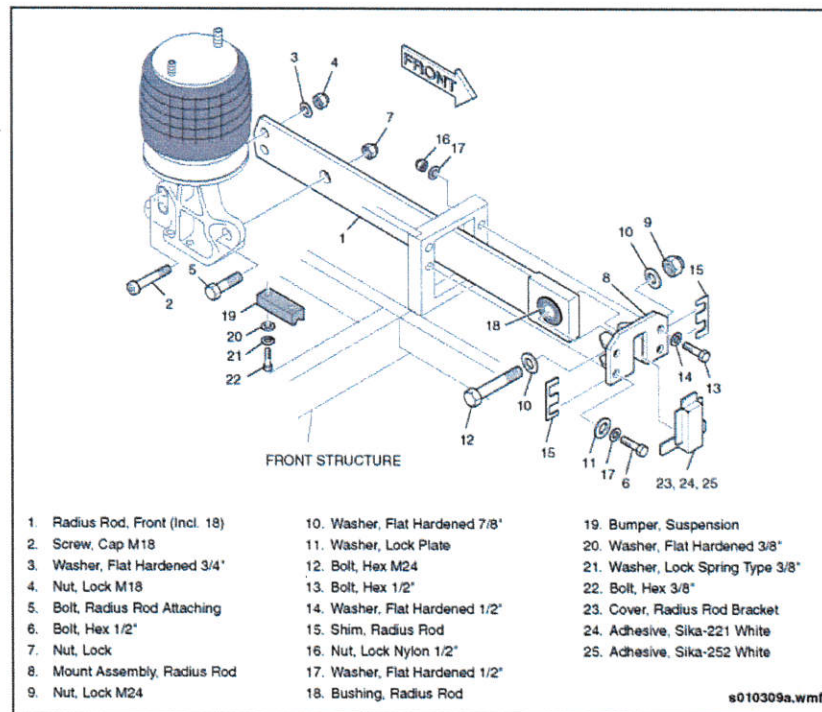

Fig. 1-37: Removing & Installing Right Radius Rod
4. Loosen and remove two M18 Allen head bolts retaining rear part of radius rod to air spring support. See "Fig. 1-37: Removing & Installing Right Radius Rod" on page 43.